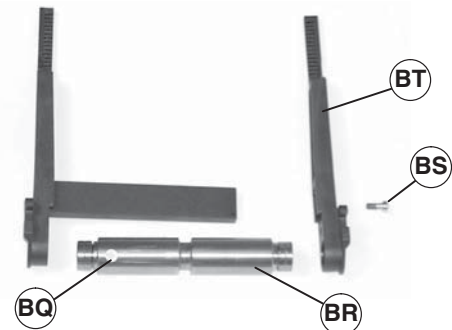

Figure 37
Note which side of conveyor magnet (Figure 37, item BQ) is located.
5. Locate magnet (Figure 37, item BQ) on spindle and bearing assembly (BR).